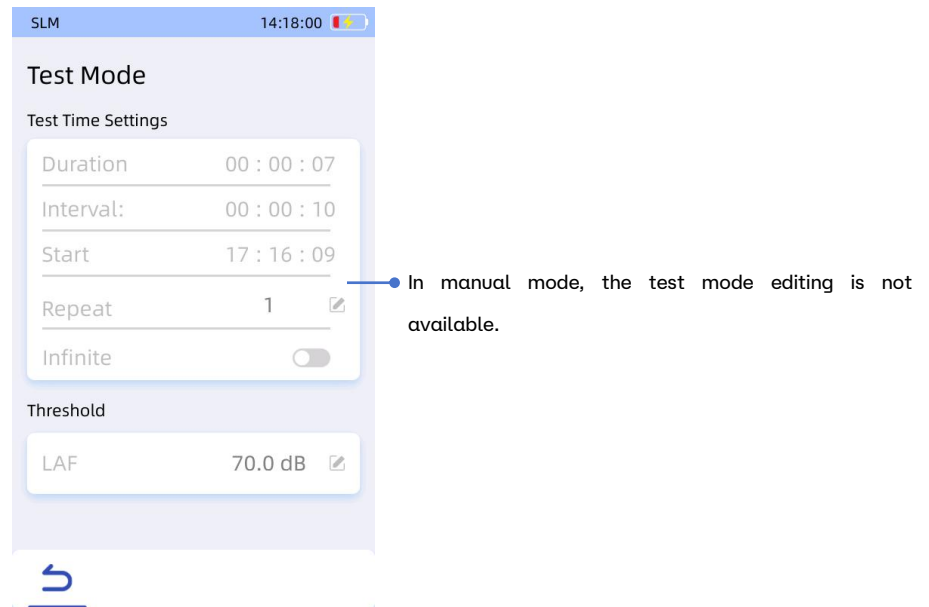

Fig 6.14 Manual Mode Parameter Settings
- Manual Mode: The user manually starts and stops the measurement from the main interface button area. Figure 6.14 shows that in